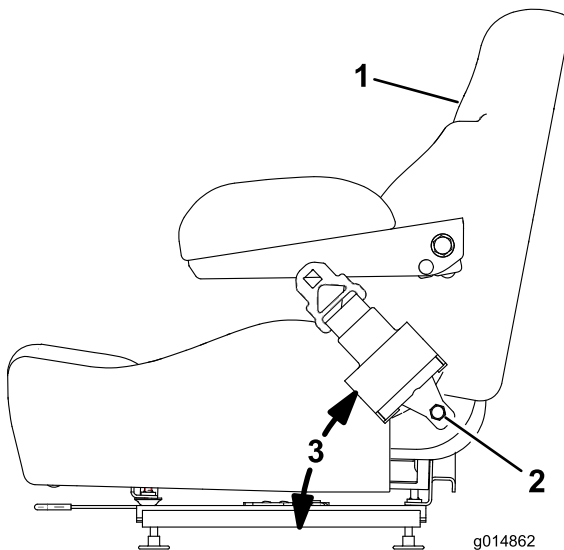

Figure 16
1. Check the angle of the seat belt compared to the bottom of the seat. The angle needs to be 47 degrees (Figure 16).